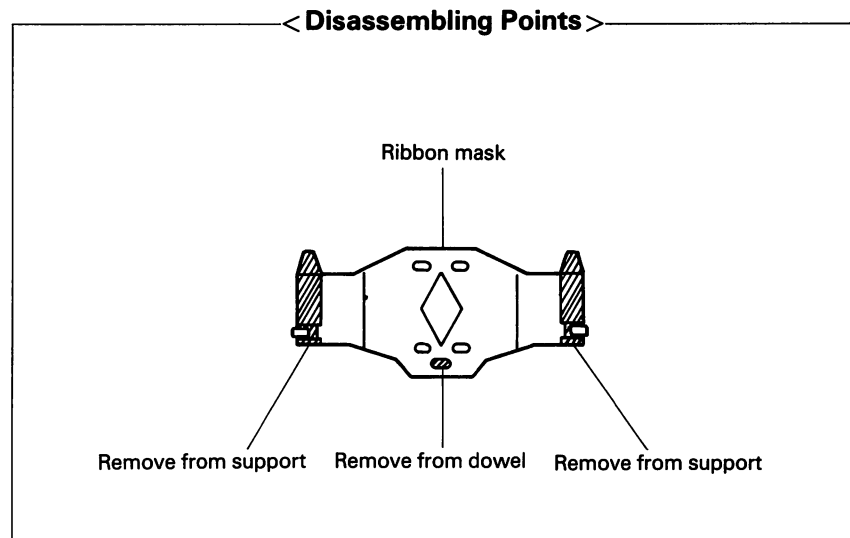

Fig. 4-28. Ribbon Mask Removal
4.3.6 Printhead Gap Adjustment (Figs. 4-28 through 4-30)
1. Remove the ribbon mask (see Fig. 4-28).